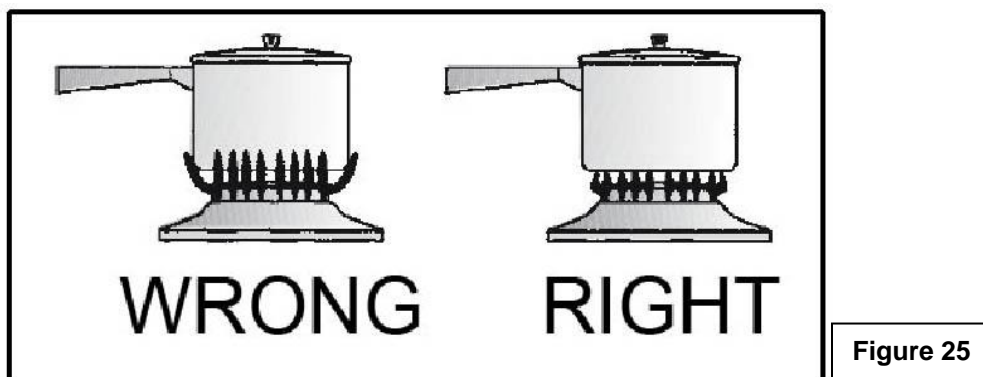

Figure 25
- **⚠** Never extend the flame beyond the outer edge of the utensil. A higher flame simply wastes heat and energy, and increases your risk of being burned by the flame. (See Figure 25)